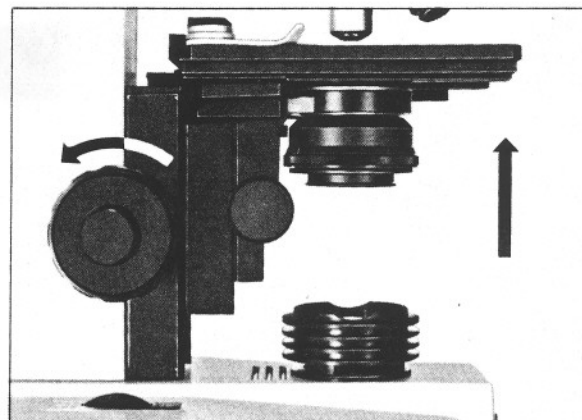

Fig. 20 - A
- 3) The relation between the direction of rotation of the coarse focus knob and that of vertical movement of the stage is as indicated by the arrows in Fig. 20-A, B.